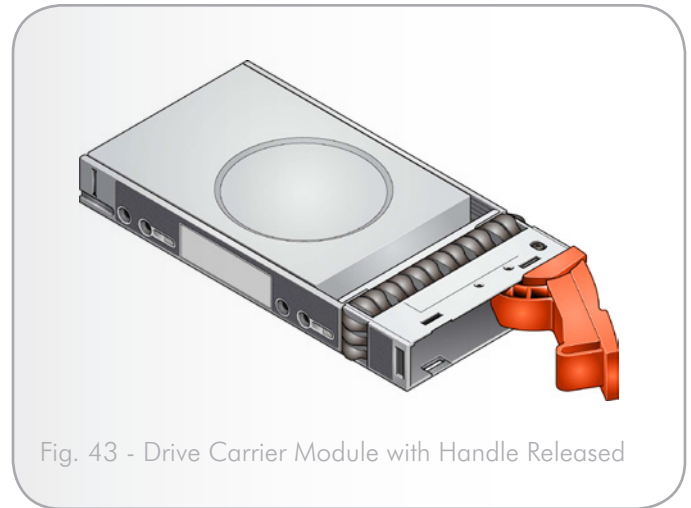

Fig. 43 - Drive Carrier Module with Handle Released
2. Release the drive carrier handle, by pressing the latch in the handle towards the right (Fig. 43) and insert the carrier into the enclosure.